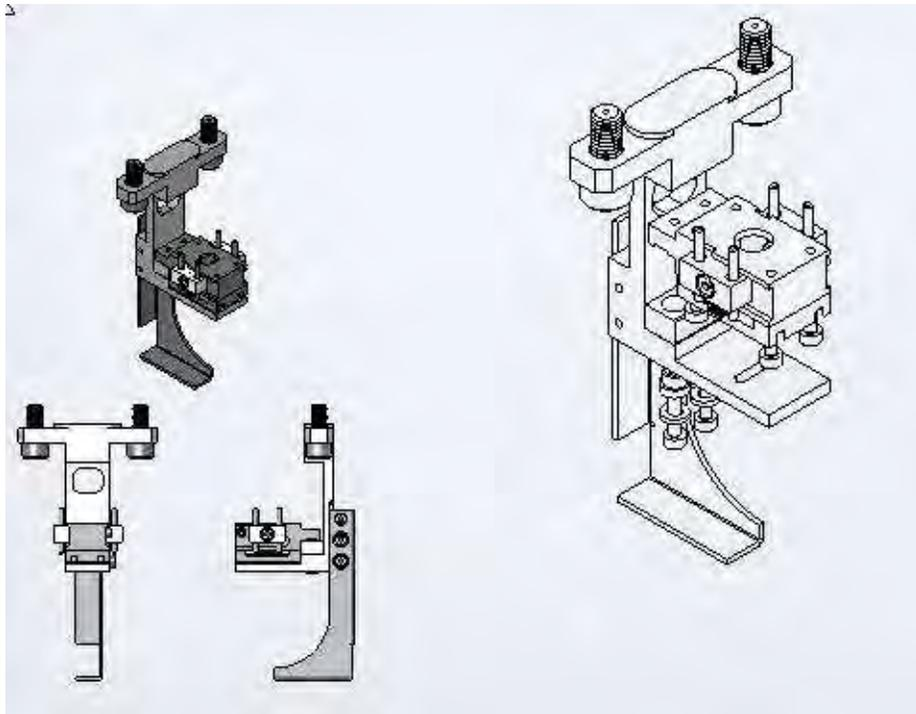
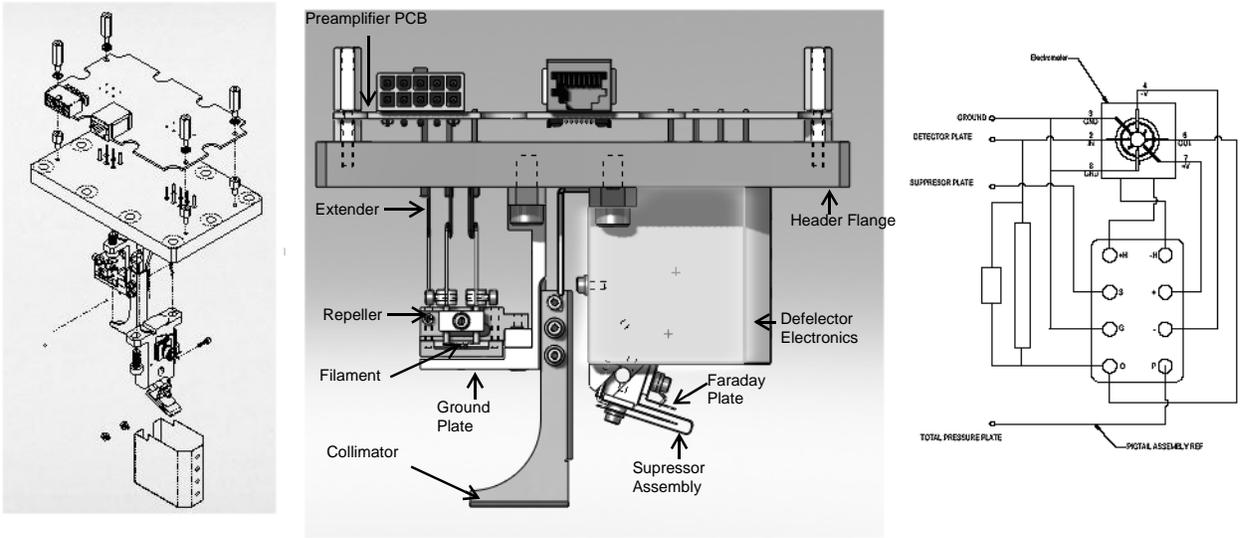
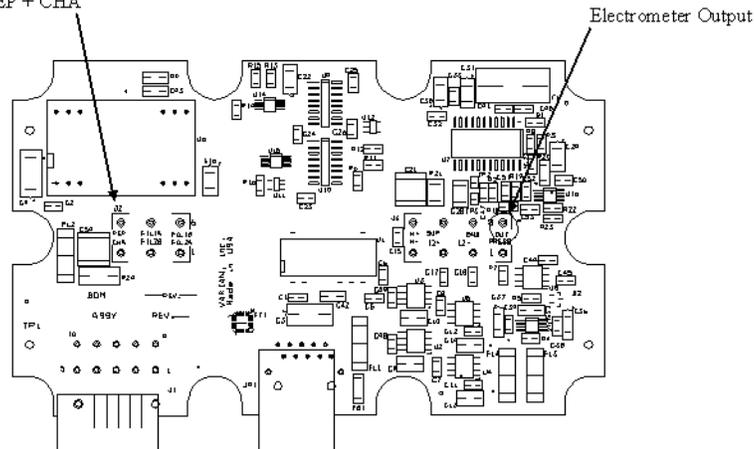
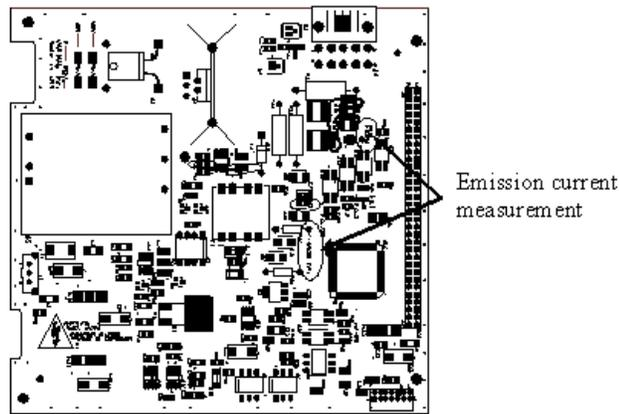

Figure C-1 Spectrometer (Ion Source Assembly)
Figure C-2 Spectrometer Header: Decomposition
Figure C-3 Pre-Amp Board - Measurement Points
Figure C-4 Ion Source Board - Measurement Points
- a. Disassemble the spectrometer header from the spectrometer body and inspect the total pressure plate (Figure C-1 and Figure C-2).
3. Pre-amp board failure (Figure C-2 and Figure C-3):
- ❑ Spectrometer - Pre Amp Board (Figure C-2 and Figure C-3 on page C-7): Measure the J2 connector filament resistance (with power off) (filament resistance < .5 Ohm). If filaments are open circuit, open the spectrometer and replace the filaments. See Section B.13 "Filament Replacement".
- ❑ Run a full calibration (Figure C-2 on page C-7 and Figure C-3 on page C-7) and after a successful pass, measure the voltage of the filament that is in use on the Pre-Amp board J2 connector (Spectrometer Header). The filament voltage should = 1.4 to 1.9 VDC with < 30 mV of noise (AC). If not, go to the *Manual Tuning* screen and adjust the *Emission Current* until the AC ripple is < 50 mV and the filament voltage is 1.4 to 1.9 VDC.
- a. Refer to step 2b for steps to measure filament resistance, ion voltage and filament voltage. Verify (Figure C-3 on page C-7 and Figure C-1 on page C-6):
- b. *Select Setup Menu > Manual Tuning* and note the *Emission Current* setting. Measure the emission current on the Ion Source board (Figure C-4 on page C-12) at test points EMISS T.P and TP101 FIL GND. The measured voltage should correspond to the noted reading (within +/- 10%). If emission current < .3 mA or zero, inspect the spectrometer for contamination (if necessary, replace the ion source). See Figure C-1 on page C-6 and Figure C-2 on page C-7.
- Switch filaments and re-calibrate and if the second filament fails, inspect the ion source and filaments and replace (Figure C-2 on page C-7). See Section B.13 "Filament Replacement".
- Inspect ion source and if contaminated (discoloration), clean ion source or replace (Figure C-1 on page C-6).
- On the J3 connector of the pre-amp board (Figure C-3 on page C-7), measure the voltage (with respect to ground) on the pin labeled OUT. The voltage should be in mV DC with no leak present.
- 11.00 VDC, remove the ion source voltage cable (J1 connector) on the pre amp board (Figure C-3 on page C-7) and re-measure the OUT pin voltage.
- b. Measure test points EMISS T.P and TP101 FIL GND (*Emission* current) on the Ion Source board (Figure C-4). The measured voltage should correspond to the observed reading in the *Manual Tuning* screen (within +/- 10%). If the measurement voltage (*Emission* current) is > 2.0 VDC and cannot be adjusted, replace the Ion Source board.
4. Pre-Amp board failure (Figure C-3 on page C-7):
- a. Open the *Manual Tuning* menu and adjust and measure the emission current (Figure C-4 on page C-12), to minimize the emission current to < 30 mVAC.